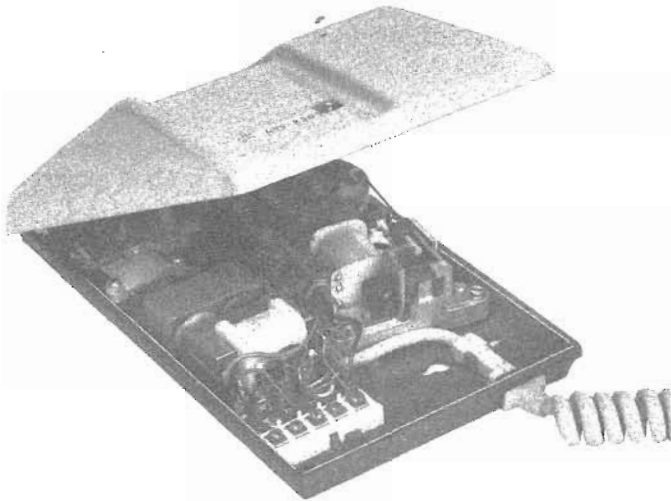

Fig. 8
- (b) Locate housing at an angle to the base as shown in Fig. 8.